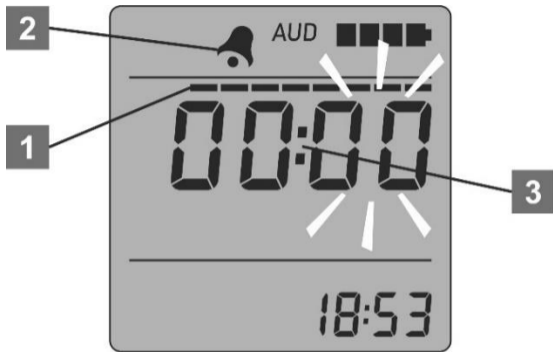

Figure 26 – LCD of the dosimeter
- alarm clock symbol (1) (if the alarm clock is on);
- alarm type symbol (2);
- battery status symbol (3);
- time of the alarm clock activation (4);
- current time (5).
To proceed to the submode of alarm clock activation time programming, press and hold the THRESHOLD button until a stripe (1) “moving” across the instantaneous value indicator appears on the LCD, and the minute digits of alarm clock activation (3) start blinking (Figure 26).